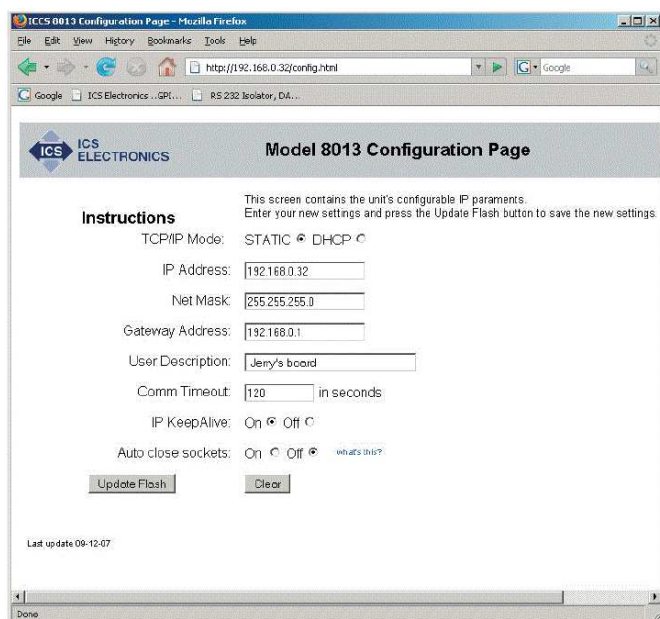

Figure 4-4 9006 Configuration Page
6. If you want to change any of the settings, press the 'Update Configuration' key. A Configuration Page similar to the one shown in Figure 4-4